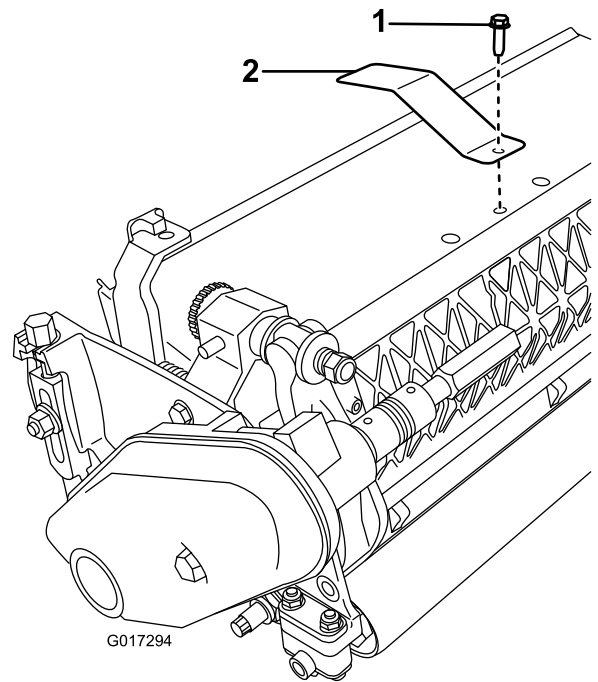

Figure 13
- Remove the center, grass-shield bolt (Figure 13).
- Install the target plate to the top of the cutting unit (under the plastic cowling) using the bolt you removed previously (Figure 13).